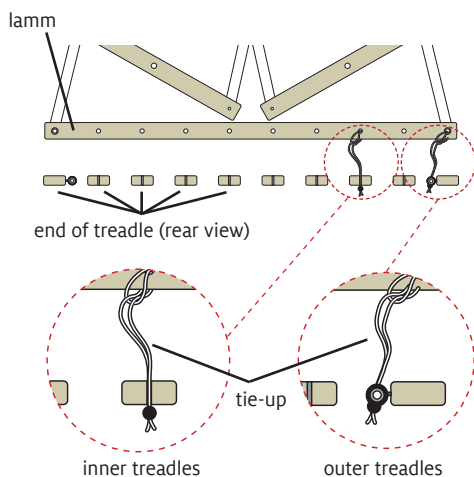

FIGURE 8: INSTALLING TIE-UPS
19. Loop one end of each tie-up through a hole in the lamm. Tie shafts to a treadle by slipping a tie-up into the slot in an inner treadle (Figure 8). Work from the front lamm to the rear lamm for each treadle. After you have completed your tie-up, check each treadle by pushing it all the way to the floor and releasing it, making sure that the button of each tie-up is up against the treadle and that each tie-up hangs straight down to the treadle.